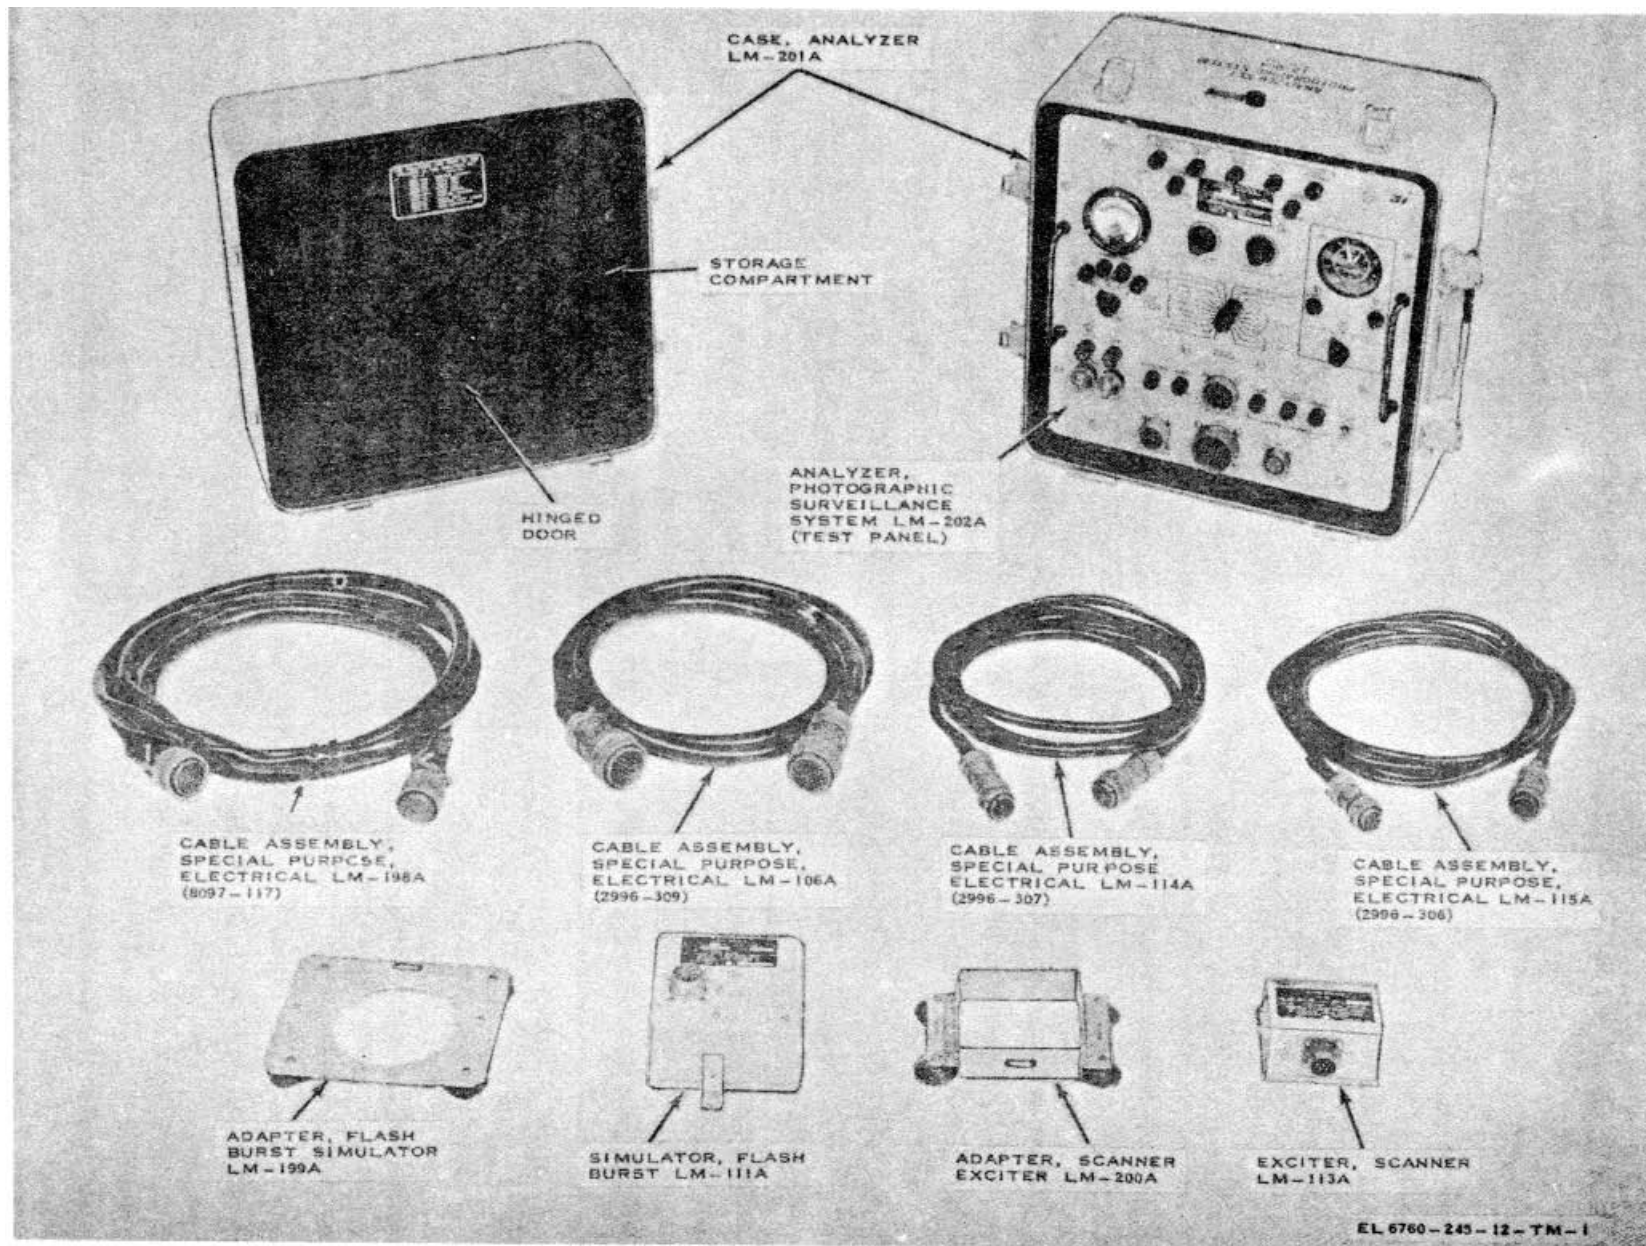

Figure 1-1. Analyzer Set, Photographic Surveillance System LS-39a
a. This manual describes Analyzer Set, Photographic Surveillance System LS89A (fig. 1-1), and provides instructions for installation, operation, and operator's and organizational maintenance. It includes instructions for operation under usual and unusual conditions, cleaning and inspection of the equipment, and replacement of parts available to the operator and organizational maintenance technician.
(fig. 1-1)
(figs. 1-1 through 1-3)
a. *Combination Case.* The two-part combination case (fig. 1-1) is joined by two separate hinges along one side. Snap latches are provided for securing the case top to the case bottom. An air relief valve, located on the side opposite the hinged side, provides for sealing the case against humidity and dust, and permits equalization of air pressure inside and outside the case before it is opened. The test panel is shock-mounted in the combination case bottom. The top section of the case contains a cushioned storage compartment for storing the scanner exciter, scanner exciter adapter, light source, light source adapter, and four cables when these items are not in use. Two folding handles on the bottom case permit hand-carrying the system analyzer.
b. *Test Panel.* The test panel (fig. 1-1) is a transistorized unit designed to measure and analyze signal voltages from an ACCS as installed in the aircraft. All the controls, indicators, connectors, and meters required to perform the operational tests are mounted on the front of the test panel. MASTER SELECTOR switch, used in conjunction with sectionalized controls, indicators, and connectors, checks out the various circuits of the ACCS. Primary power to operate the system analyzer is furnished by the ACCS being tested through SYSTEM TEST connector J5. When used with Simulator, Control System, Camera LS36A, power is furnished through LS36 connector J1.